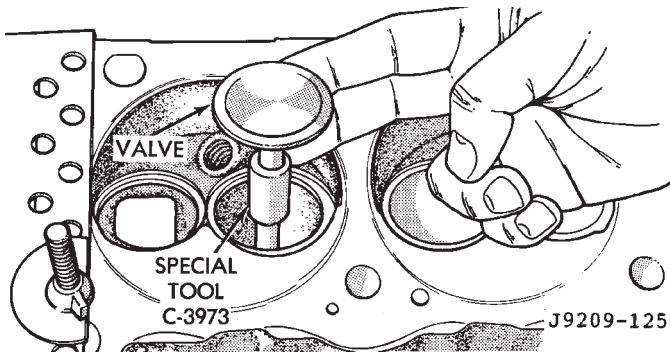

Fig. 15 Positioning Valve with Tool C-3973
- (a) Install Valve Guide Sleeve Tool C-3973 over valve stem and install valve (Fig. 15). The special sleeve places the valve at the correct height for checking with a dial indicator.